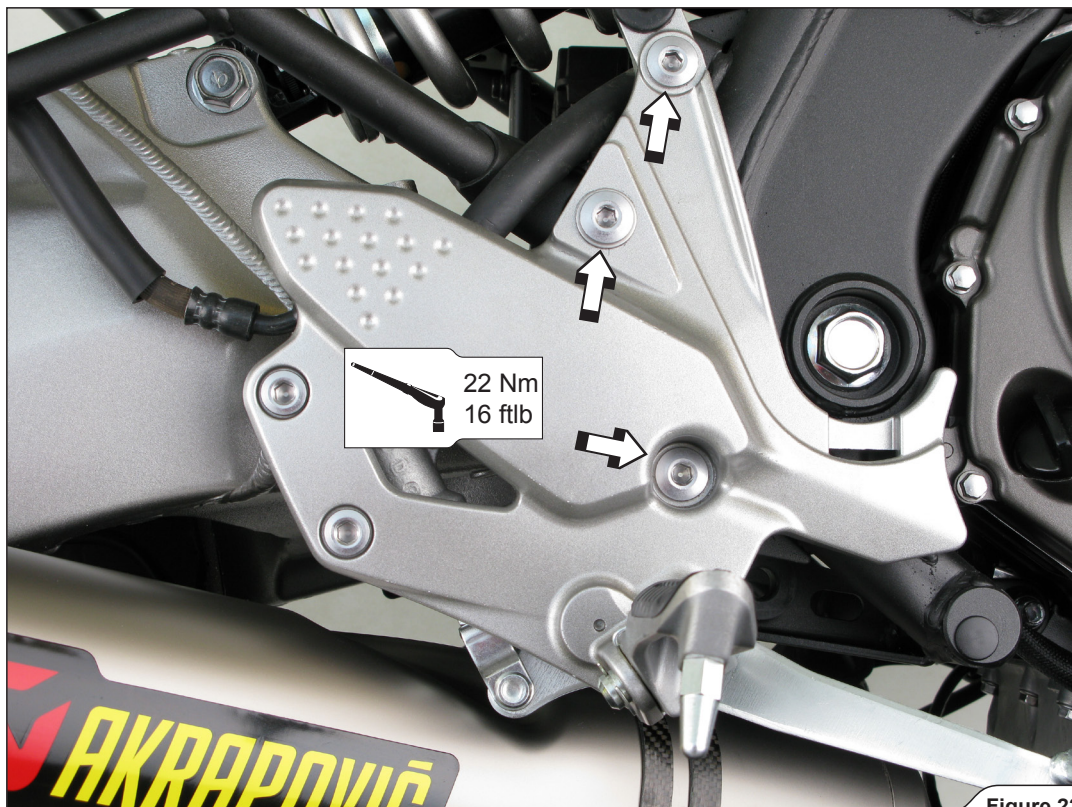

Figure 22
9. For ER-6 Versys: Reinstall the rider's footrest bracket in the reverse order from the order in which it was removed (Figure 22).